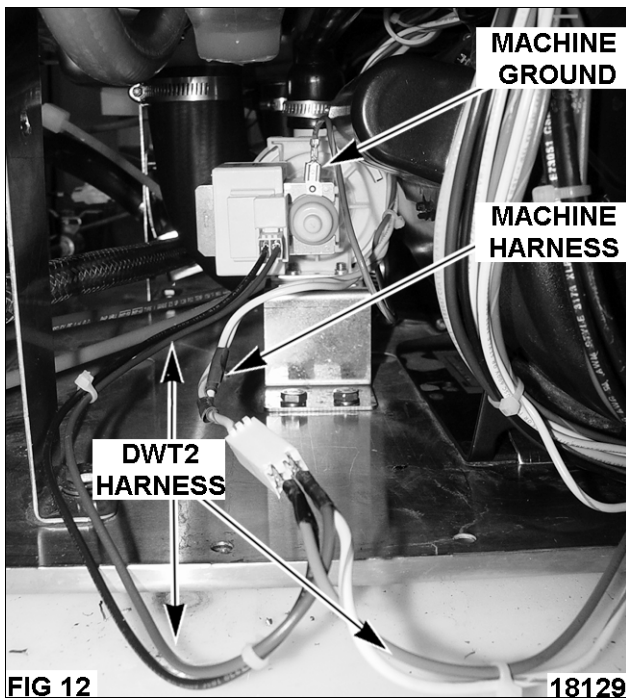
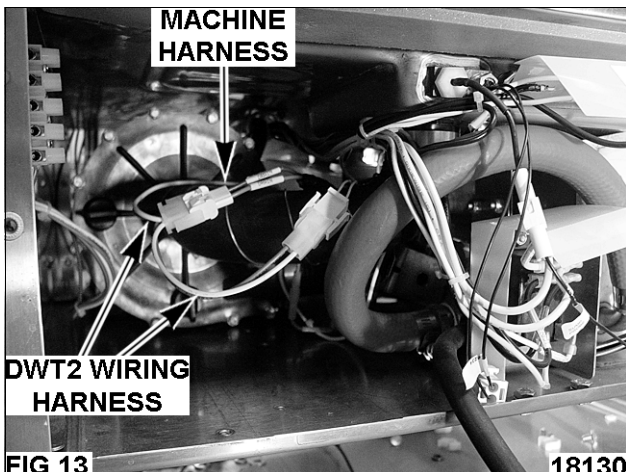

FIG 12 18129
FIG 13 18130
3. Make drain system connections with wiring harness per Fig 12 (Pump Drain) or Fig 13 (Solenoid Drain).
- Attach the strain relief bracket to dishwasher with a #10 screw per Fig. 12.
- Make DWT2 cold water valve harness (919862) connections with wiring harness (814267) per Fig. 13.